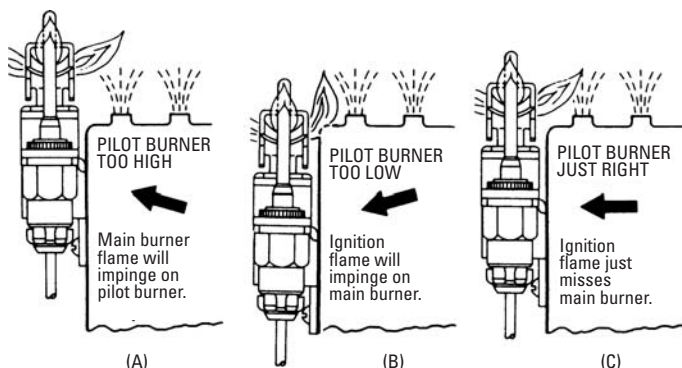

Figure 5-61 Proper positioning of the pilot burner flame.
3. Mount the pilot burner so that the flame is properly positioned with respect to the main burner flame (see Figure 5-61).